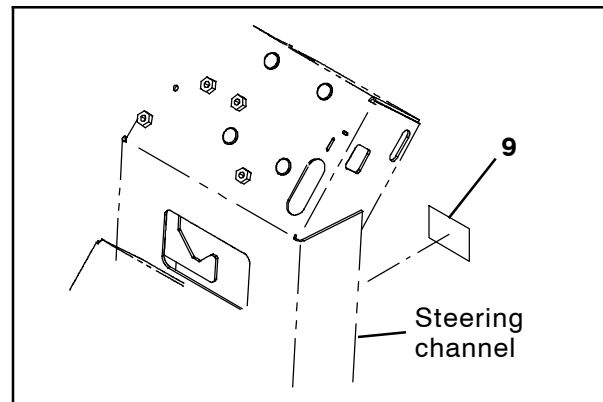

FIG. 10
20. Clean the steering channel where the telemetry label (9) is supposed to be located and install the telemetry label and SIM label removed from the control box (1) onto the steering channel. (Fig. 10)